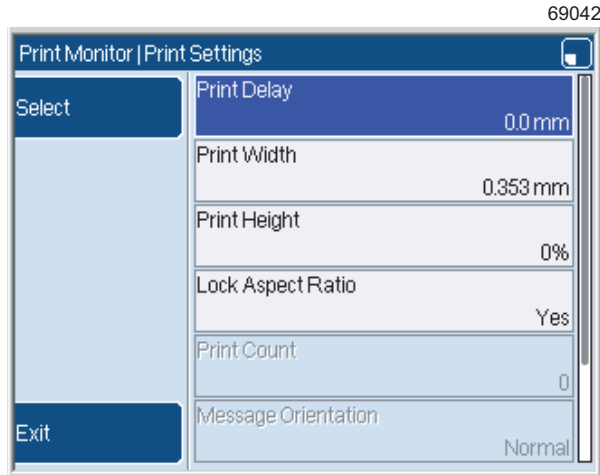

Figure 1-5. Print Settings page
Some of these pages are gateways to other pages. These pages also give information about the printer, or about the instructions that it has been given. For example, in the **Print Settings** page in Figure 1-5, you can see information about the current message.
1. Press the Up arrow key or the Down arrow key until the item is highlighted—the text is white and the background is blue. For example, in Figure 1-5 the **Print Delay** option is highlighted.